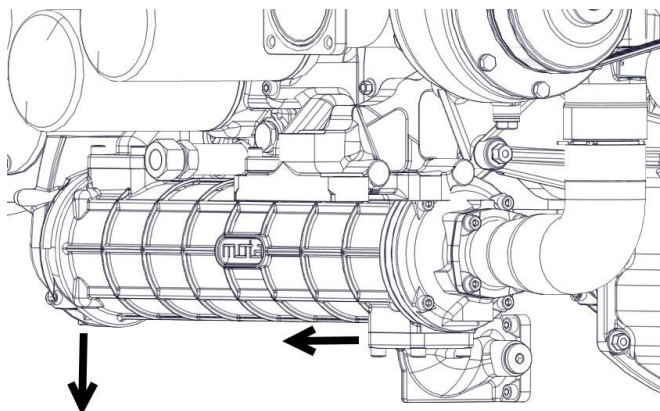

Figure 154-3.
4. Turn the oil cooler assembly away from the engine and pull down (Figure 154-3).